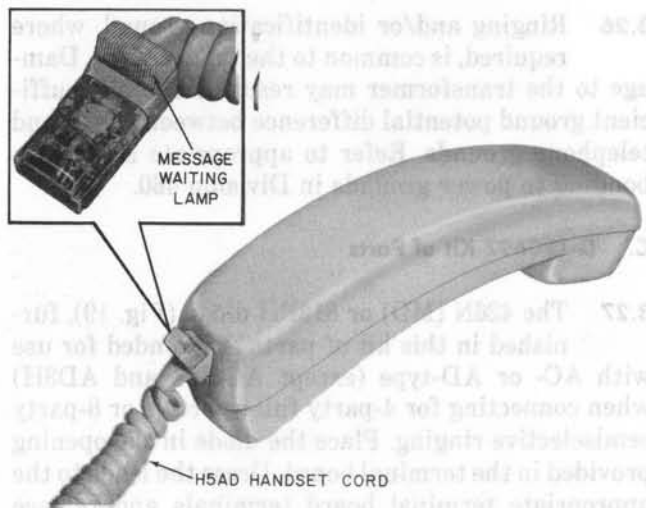

Fig. 18—H5AD Handset Cord (Message Waiting Lamp)
3.22 If message waiting lamp feature is required, an H5AD handset cord must be used (Fig. 18) the lamp equipped end of the cord plugs into 220A or 2220B hand telephone set when used with AC1, AC1P, AD1, or AD2 telephone bases only.